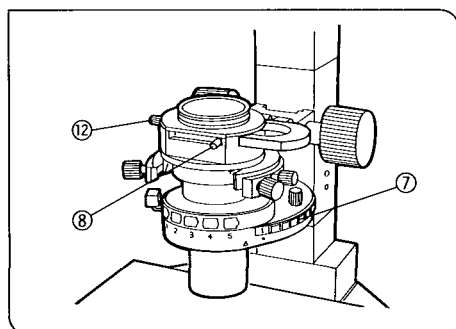

Fig. 97
4. Rotate the condenser turret ⑦ to select the "BF" brightfield observation light path (no optical element in the light path) (Fig. 97).
5. To engage the polarizer into the light path, move the polarizer lever ⑧ on the polarizer unit (IX-LWPO) to the right.
10. While looking at the objective exit pupil, rotate the polarizer slider rotation/clamping knob ⑫ to the position where the black fringe is best defined. (Figs. 97, 98)
1. Rotate the condenser turret ⑦ to engage the Nomarski prism that matches the objective to be used. (Fig. 97)